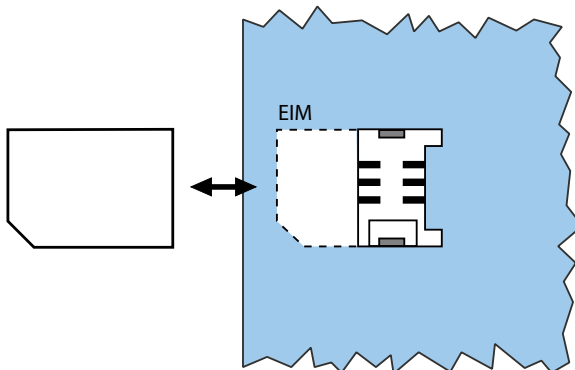

Fig. 80 EIM card
4. Push the new EIM card under the guide tongues and through to the stop in the chip-card holder. Make sure the contacts of the EIM card are facing downwards and the bevelled edge of the EIM card is pointing towards the edge of the mainboard (see Fig. 80).